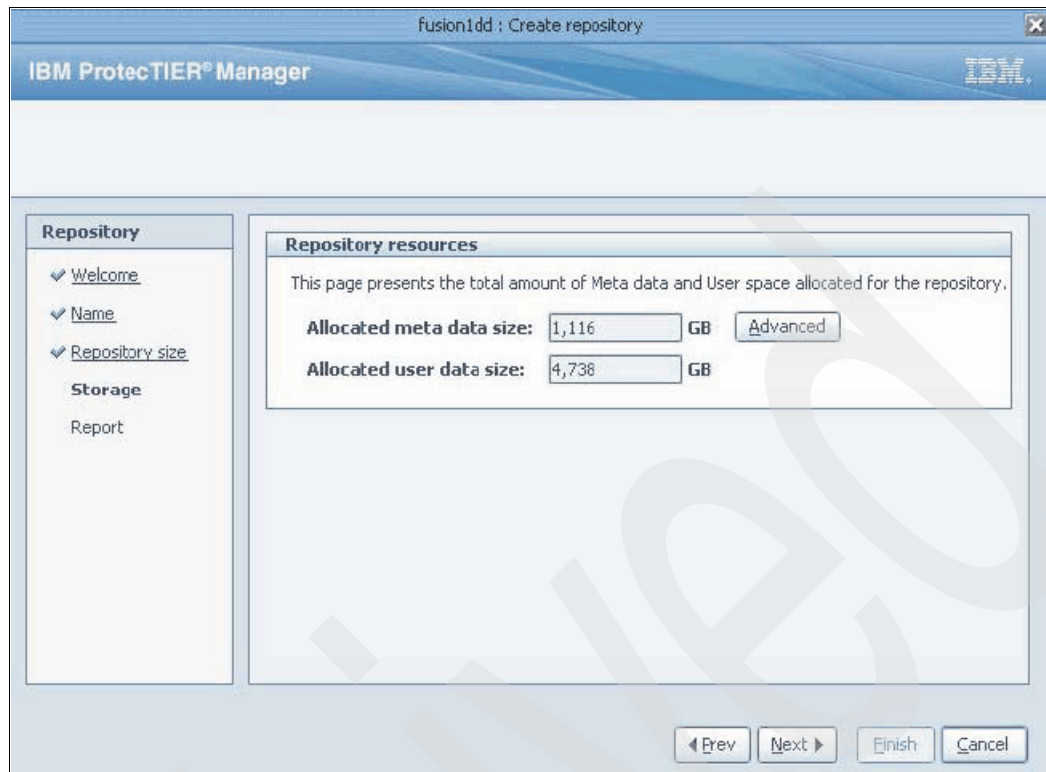

Figure 6-35 PT Manager_Meta data
10. The Meta data window opens. See Figure 6-35 on page 122. On this panel, the “Allocated meta data size” field displays the amount of disk space allocated for meta data, and the “Allocated user data size” field displays the amount of disk space allocated for user data, based on the estimated factoring ratio and the set of existing file systems.